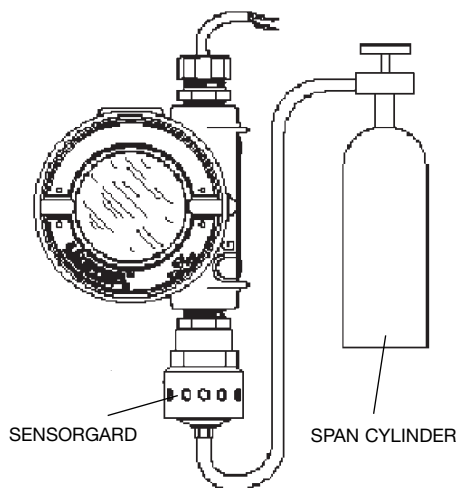

Figure 2-5
- a. Cal Kit 40, connect the other end of the tubing over the SensorGard inlet (FIGURE 2-5).